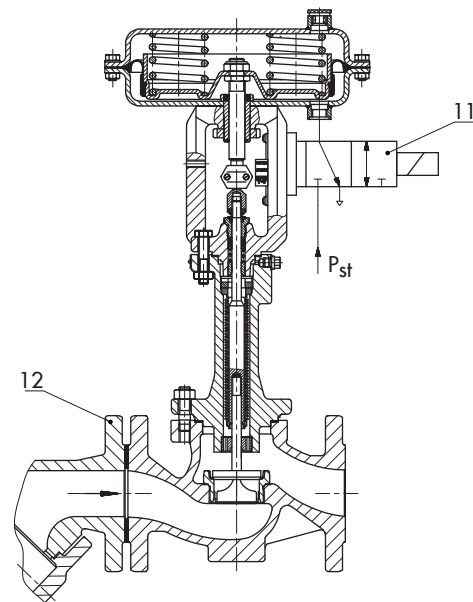
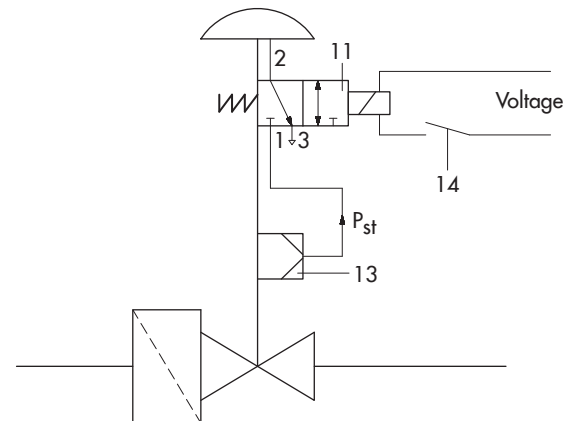

Fig. 2: Type 3241-1-Gas Automatic Shut-off Valve
Fig. 4: Functional diagram showing version with positioner
The signal pressure p_{st} is applied to the pilot valve (11) whose coil is connected to the safety interlock circuit (switch 14 aFig. 3nd Fig. 4). During operation, the coil is energized and the signal pressure p_{st} acts on the diaphragm. In the event of a malfunction, the pilot valve is activated and the pressure acting on the diaphragm is relieved, causing the control valve to quickly close.
Legend for Fig. 2 to Fig. 4